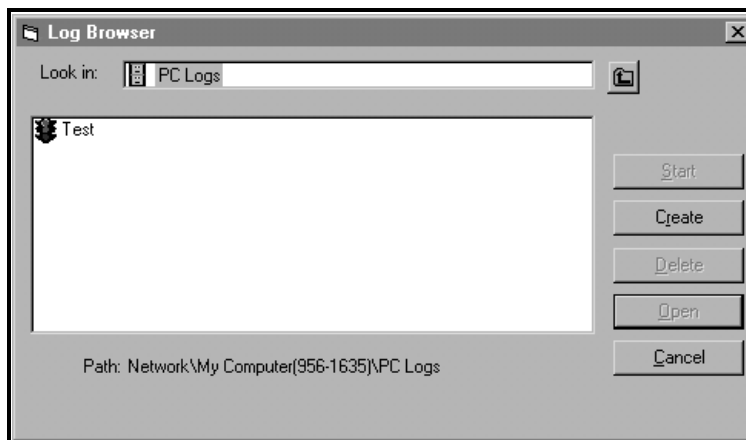

Figure 16: Create a PC Log
3. Double click on *PC Logs* to advance to the dialog box shown in Figure 16.
4. At the dialog box shown in Figure 16, click on the **[Create]** option button to create a new meter log.